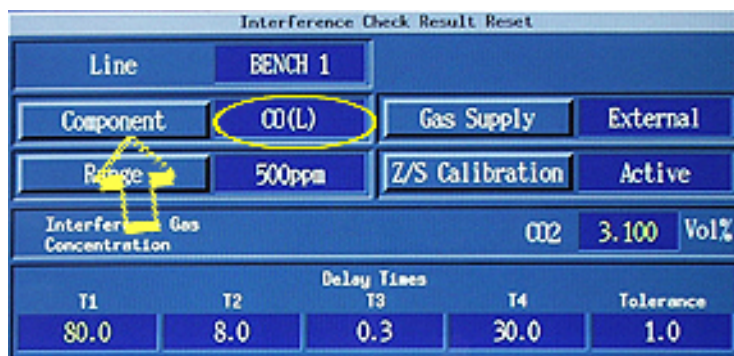

Figure 9
- 111 The "Interference Check Result Reset" subpanel will appear, click on the "Component" button. See the arrow in Figure 9.
From menu items that appear below the button, click on "CO(L)." See the circle in Figure 9.